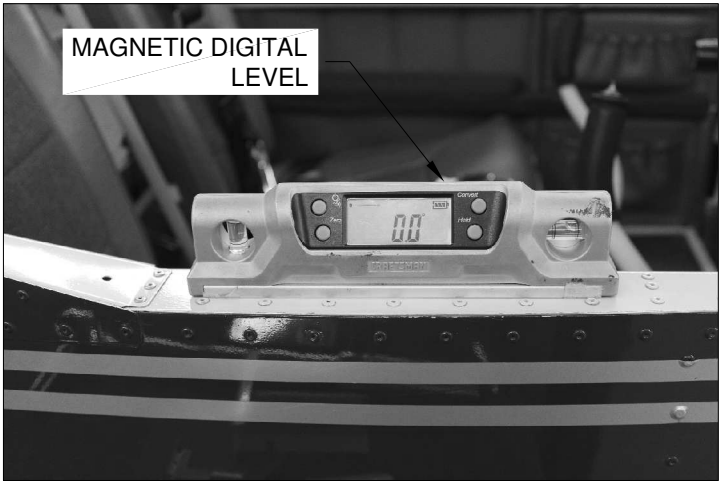

FIGURE 3: CALIBRATING THE MAGNETIC DIGITAL LEVEL
Step 3: Place a magnetic digital level on the canopy deck and zero it. See Figure 3.